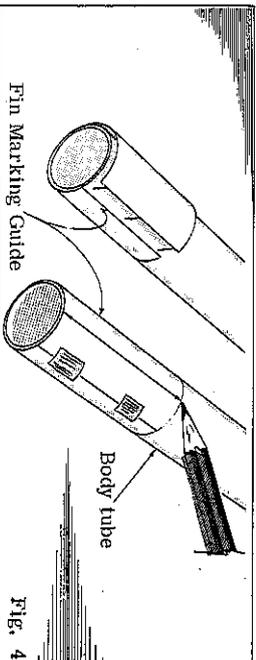

Fig. 4
(4) Trace the Fin Marking Guide onto heavy paper and cut out carefully. Wrap the guide around the tube as shown (Fig. 4) and mark the tube at each arrow tip. Lay the tube in the "Y" notch of a drawer or door sill and align one set of marks with one edge of the sill — now draw a line on the tube for its full length. Repeat this procedure with the two remaining sets of marks.